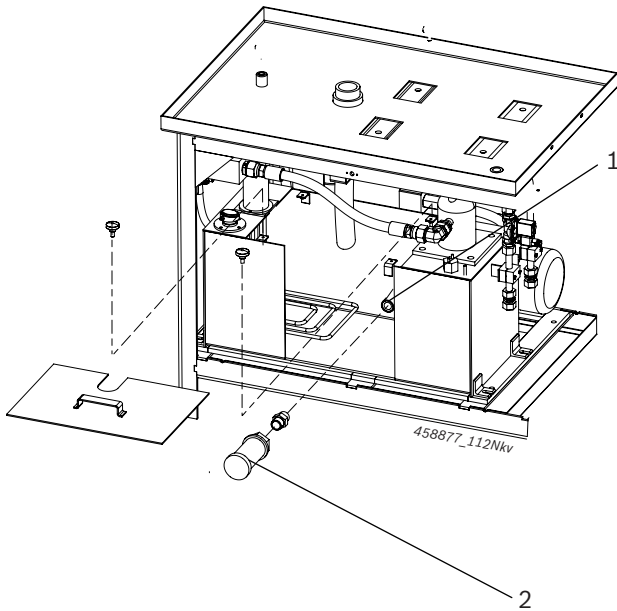

Fig. 20: Test oil tank
9. Loosen the adapter (Fig. 20, Pos. 1) and pull out the suction strainer (Fig. 20, Pos. 2).